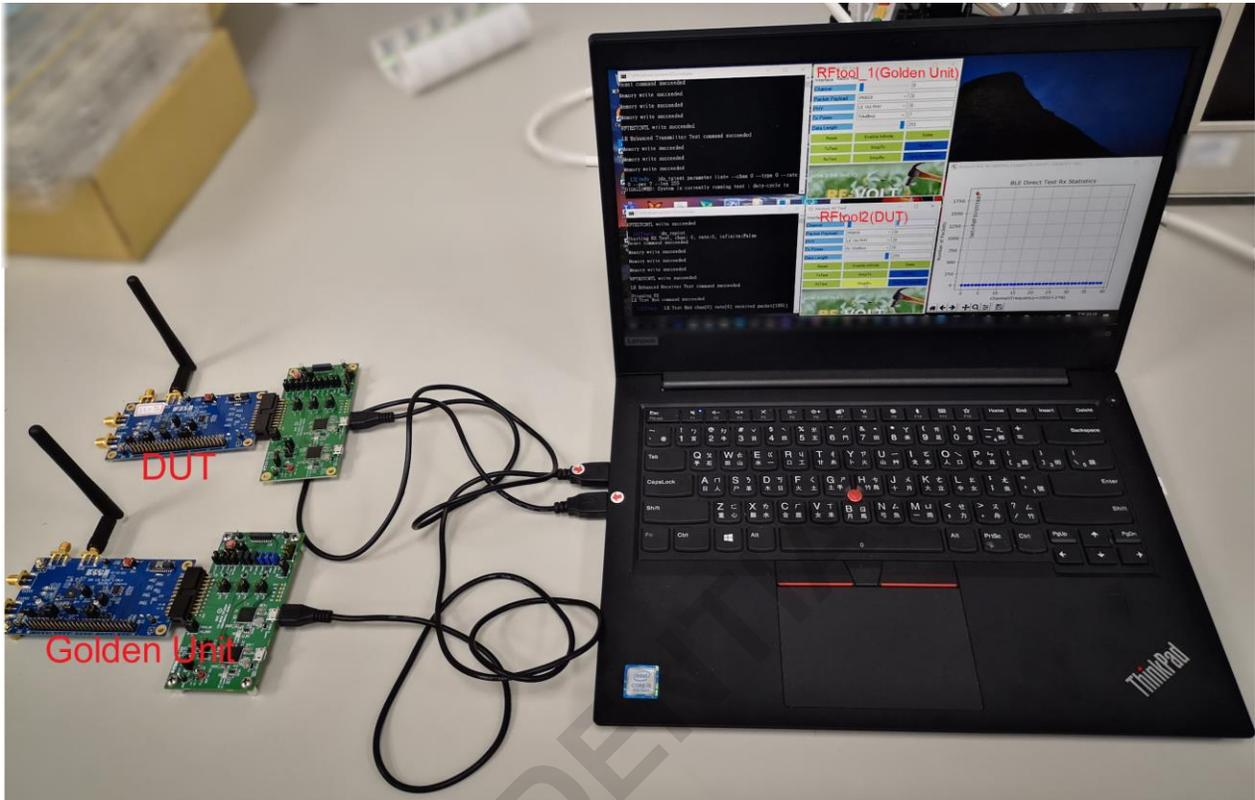

Figure 10 - Test Environment to Check DUT RF Function Using RF tool
- Figure 10 - Test Environment to Check DUT RF Function Using RF tool
If the user wants to check the DUT RF function without a Bluetooth LE tester, you can prepare a golden unit such as ATMx/3 EVK and DUT. Open RF Tool twice on the same PC, then control the golden unit and DUT separately. Figure 10 illustrates the testing process.